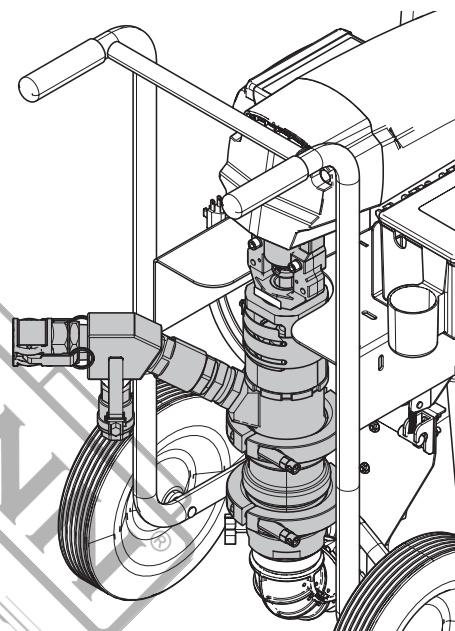

Fig. 17
3. Loosen jam nut (19) and unthread the lower pump (6a).
Note: When reinstalling the lower pump, the jam nut (19) should be threaded on the lower pump until it bottoms out. The lower pump should be threaded completely into the motor adapter (6f) and backed off to the correct orientation position shown in figure 17. Once in position, unthread the pump two additional turns and secure the jam nut.